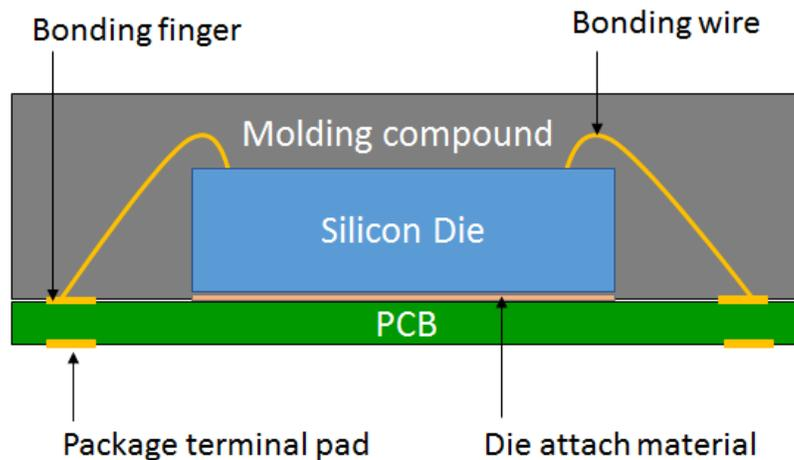

Figure 7 – LGA cross-sectional illustration with single die and two-layer substrate configuration
- Figure 7 shows a typical LGA package cross sectional illustration with single die and two layer substrate configuration. The LGA package can also be assembled on multi-layers laminations with multi-dies as a module. A standard wire bonding technology with Cu or Au type wires is used for the electrical connection between die and substrate. Encapsulation process afterward to protect the connecting wires and dies inside the package.